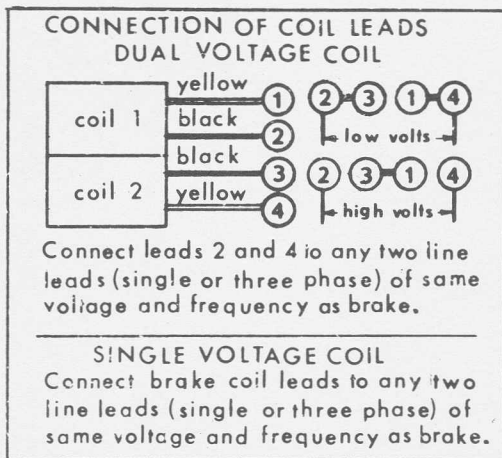
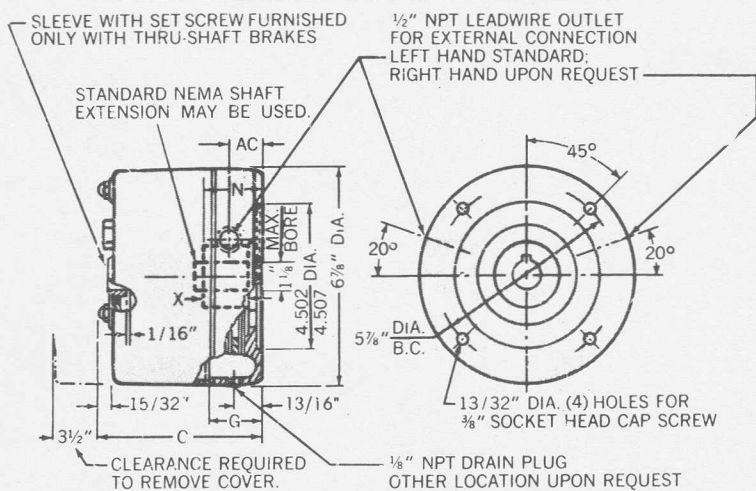

Figure 2. Wiring Diagram
Figure 3. Outline Dimensions of Brake
### INSTALLATION (See Figures 3 & 5, Table 2)
1. Remove hub (1) from brake and position on motor shaft with key as indicated in Table 2 and illustrated in Figure 3; use dimension "N" and measure from the face of C-flange or foot mount. Tighten hub setscrews to shaft at 8 - 10 lbs. ft. torque.
2. Remove capnuts (item 3) and gaskets (item 4). Remove cover (item 2), and position brake over hub on shaft. Bolt brake bracket (item 31) to motor flange or foot mount.
3. Connect coil wire leads as indicated in Figure 2.
4. Install cover (item 2), and start gaskets and capnuts on studs. Roll "O" Ring (item 5) down cover until it snaps into groove between bracket and cover. Tighten capnuts.
## WIRING (See Figure 2)